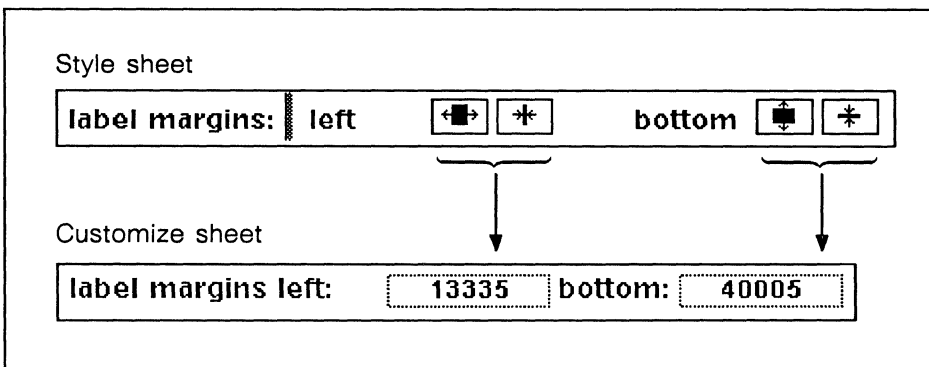

Figure 29-18. Numeric value of label margins
**Label margins.** On the Style sheet you can increase or decrease the size of the label margins by pointing the mouse cursor at one of the four label margin icons and clicking the right or left button. Each click represents a change in the numeric value of that margin on the Customize sheet. (For details on the numeric value of each click, see Figure 29-5.) Figure 29-18 shows the label margin portion of both the Style and Customize sheets. To produce more subtle variations in label margin widths, modify the value of the appropriate *label margin* on the Customize sheet.